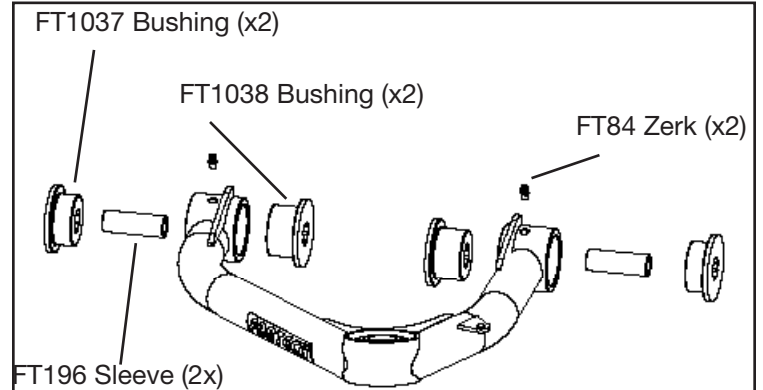

FIGURE 4 - STEP 4
4. Locate the new Fabtech control arms, two (FT1037) bushings, two (FT1038) bushings, four (FT57-1) washers, two (FT84) grease zerks, and two (FT196) sleeves. Install the components into the new control arms. **SEE FIGURE 4**